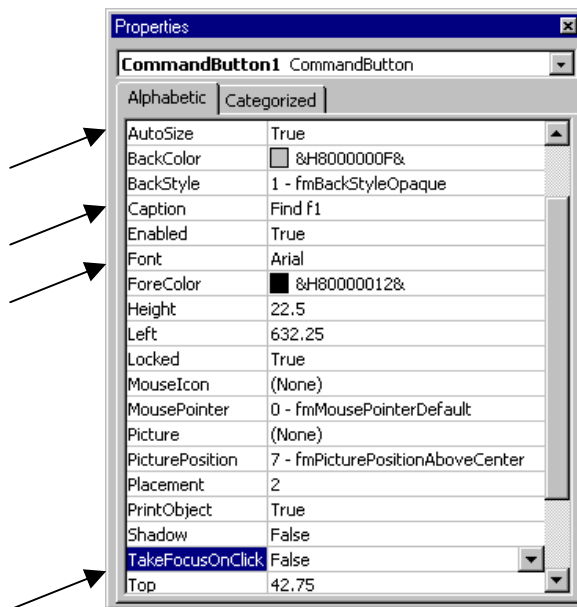

FIGURE 30:
43. Right click on the first command button. Select PROPERTIES. Make the changes indicated in Figure 30